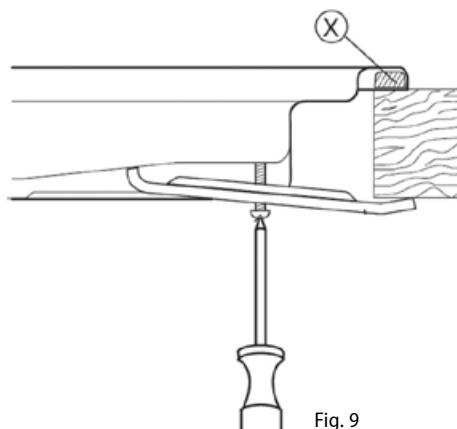

Fig. 9
6. For the method of fixation of the unit in the worktop see Fig. 9. „X“ position marks the water sealing.